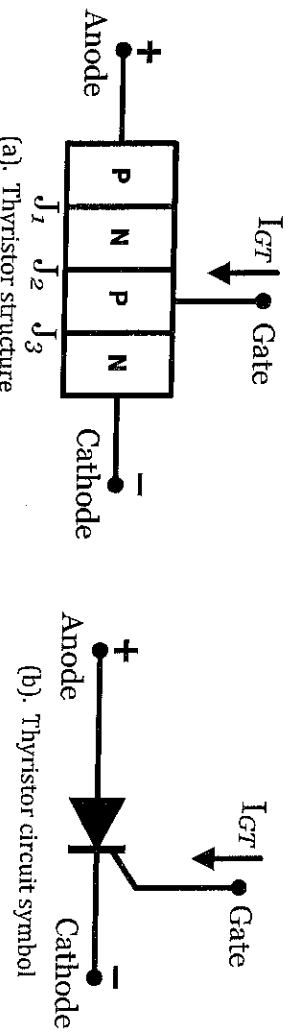

Fig.15. Three-terminal, four-layer diode or SCR
When a P-N junction is added to an N-P-N transistor structure, the device formed is commonly called a silicon controlled rectifier (SCR) or thyristor. Fig. 15(a) shows the construction. It is a silicon P-N-P-N or four-layer diode with three P-N junctions; J_1 , J_2 and J_3 having three terminals connected to the semiconductor materials called anode (A), gate (G) and cathode (K) as shown in Fig. 15a with its circuit symbol shown in Fig. 15b. The gate terminal is connected to the cathode of the diode symbol. The diode arrow points in the direction of forward current or majority carriers through the thyristor. It is called a diode because it conducts in one direction and blocks in the other direction.